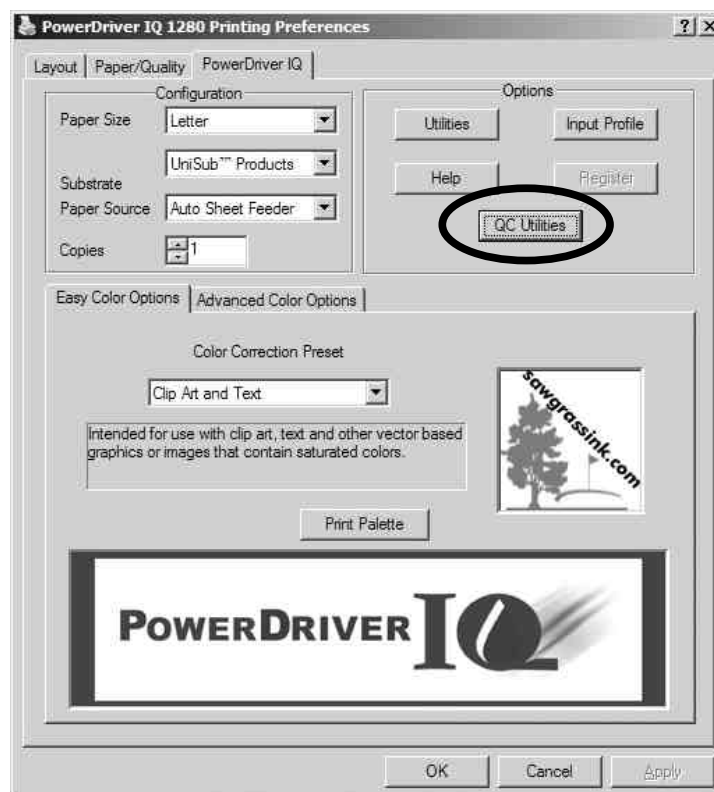

Fig 3
- iv. On the PowerDriver IQ Properties tab, click **QC Utilities**; see Fig 3.